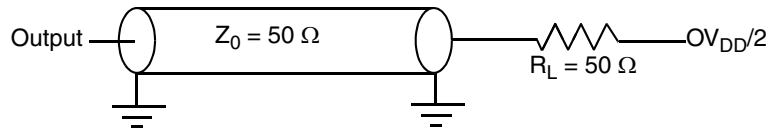

Figure 31. AC Test Load for the JTAG Interface
- All outputs are measured from the midpoint voltage of the falling/rising edge of tTCLK to the midpoint of the signal in question. The output timings are measured at the pins. All output timings assume a purely resistive 50-Ω load (see Figure 31). Time-of-flight delays must be added for trace lengths, vias, and connectors in the system.
- The symbols used for timing specifications herein follow the pattern of t(first two letters of functional block)(signal)(state)(reference)(state) for inputs and t(first two letters of functional block)(reference)(state)(signal)(state) for outputs. For example, tJTDVKH symbolizes JTAG device timing (JT) with respect to the time data input signals (D) reaching the valid state (V) relative to the tJTG clock reference (K) going to the high (H) state or setup time. Also, tJTDXKH symbolizes JTAG timing (JT) with respect to the time data input signals (D) went invalid (X) relative to the tJTG clock reference (K) going to the high (H) state. Note that, in general, the clock reference symbol representation is based on three letters representing the clock of a particular functional. For rise and fall times, the latter convention is used with the appropriate letter: R (rise) or F (fall).
Figure 31 provides the AC test load for TDO and the boundary-scan outputs of the MPC8555E.